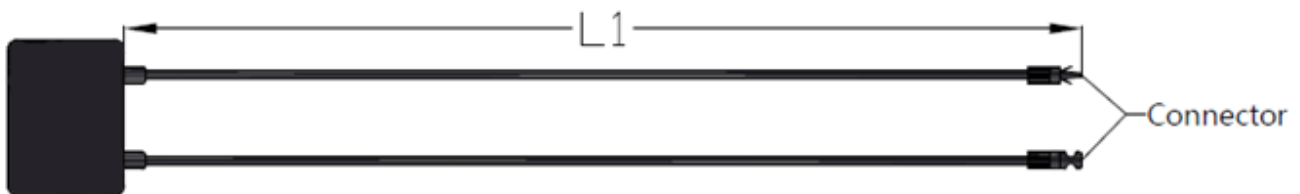

Figure 9: Junction box
- h) The cable of the junction box is defined as L, as showed below in Figure 9. For Jinko standard module, L is 900; 1200mm; and for customized module, L can be based on your condition. Please take the cable length into consideration before designing the wiring layout.